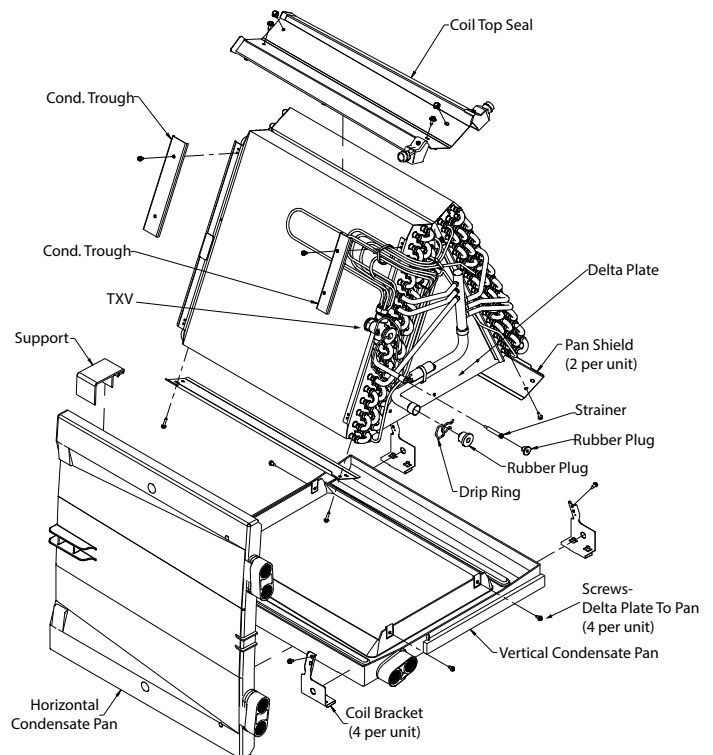

Fig. 31 – A-Coil Component Location
8. Remove horizontal condensate drain pan from coil (if present) and condensate pan assembly (Fig. 31).
9. Remove 4 coil brackets if present (Fig. 31).
10. Remove screws at delta plates and remove coil from vertical condensate drain pan (Fig. 31).
11. Horizontal Applications Only—Remove drain connections and J-shaped tube from original coil, and install them in same position on new coil (Fig. 31).
12. Place coil assembly in plastic condensate pan and secure with 4 screws through delta plate (Fig. 31).
13. Horizontal and Upflow Applications Only—Attach 4 coil brackets to coil and pan assembly (Fig. 31).
17. Horizontal Applications Only—Reinstall horizontal pan clip and secure with 1 screw (Fig. 31).